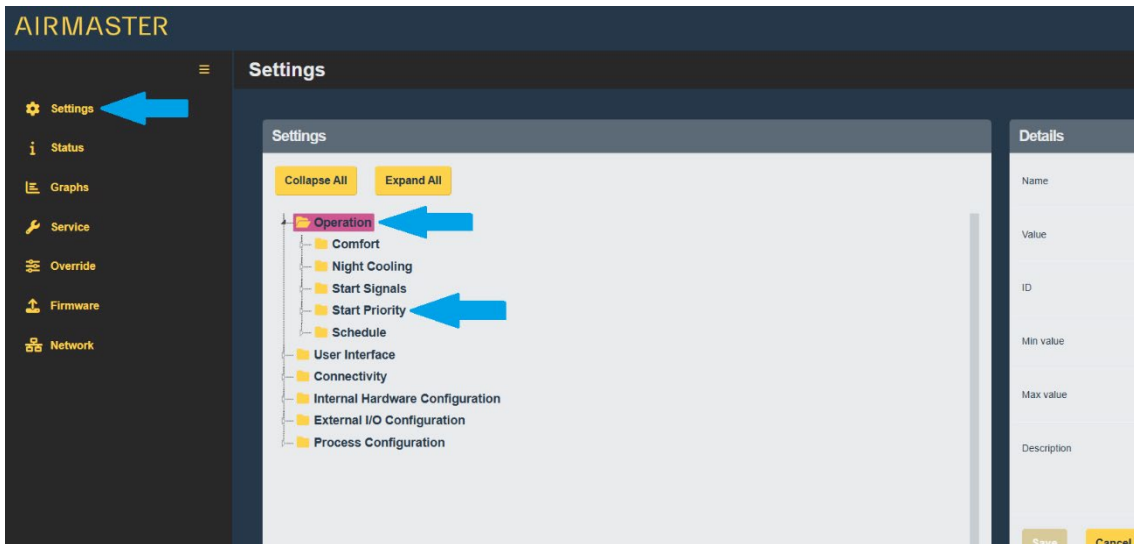

Figure 31: Start Priority menu
1. Click on “Settings” in the left-hand menu, then click ”Operation” in the drop-down list. Next, click on “Start Priority”, see Figure 31 below: